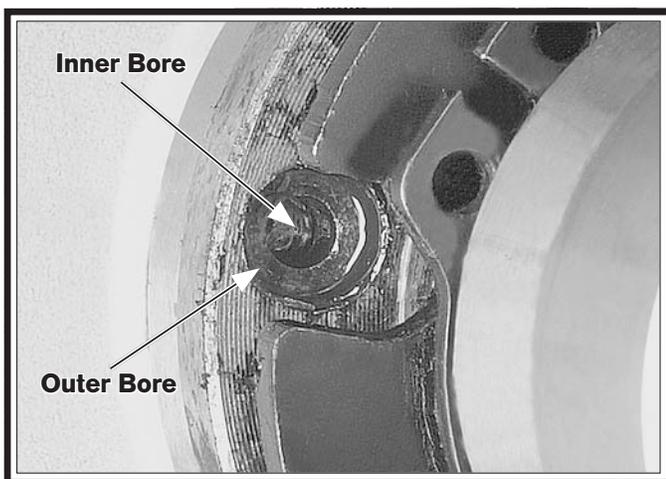

Figure 135. Shear pin bores aligned.
7. Rotate the lathe spindle to line up the inner and outer bores, as shown in **Figure 135**, and use the magnet to remove the other half of the broken shear pin.